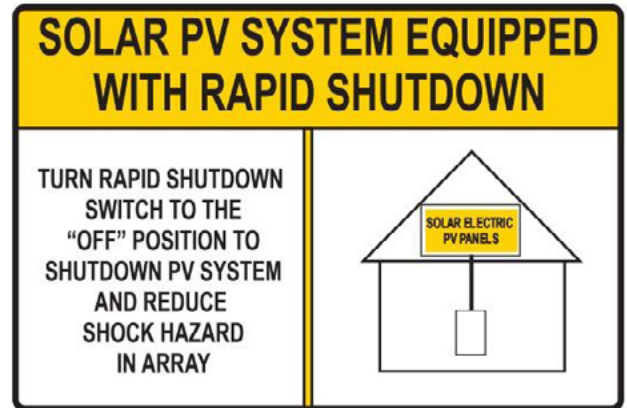

Figure 8: Sticker for showing portions of PV array which will be shut down using RSD
- In order to earmark the parts of the array which will be shut down by using the RSD the following sticker (Figure 8) needs to be pasted in the location specified by the Authority having jurisdiction or at a distance of not more than 3ft (1m) from from the RSD, as mandated by the NEC code.